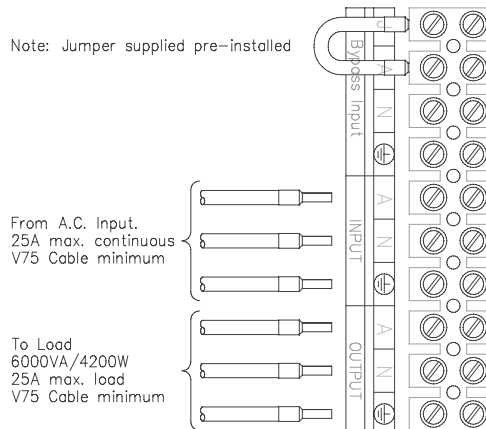
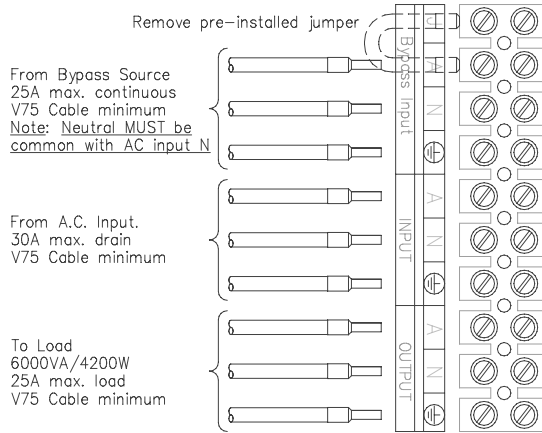

Fig 3. Single Supply Wiring
Fig 4. AC Supply with Separate Bypass Supply
1. Ensure that the UPS protective device and the cabling are sized to accommodate the ratings as listed in Figs 3 & 4.
Note: For Terminal Connection refer to Fig 3
Note: For Terminal Connection refer to Fig 4
4. Connect to the UPS in accordance with Fig 3 for a Single Supply Input or Fig 4 for a Dual Supply Input.